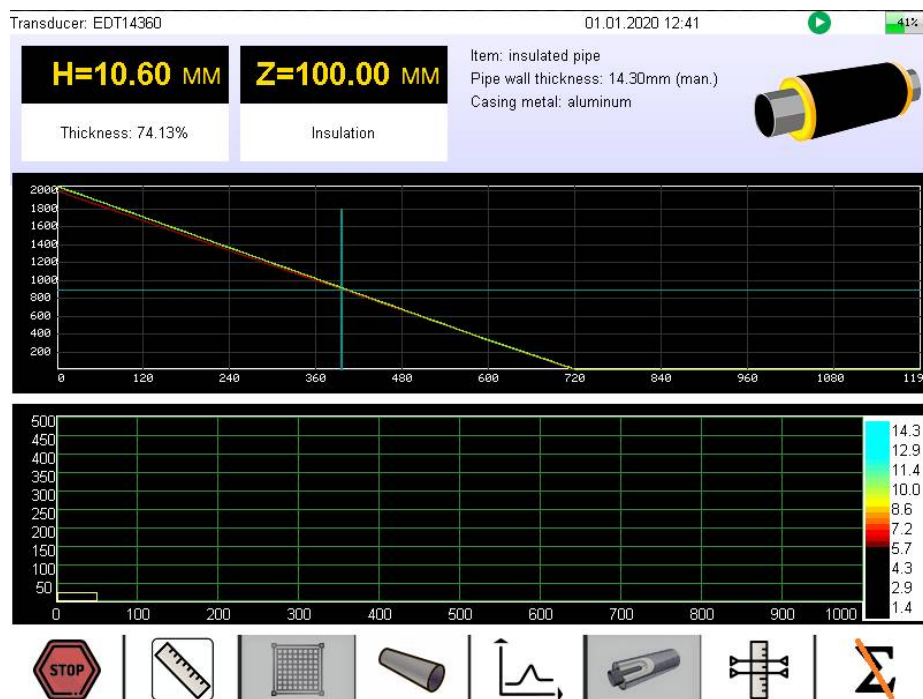

Figure 52. Main window of the Device in scan mode
- Start scanning through the  menu ("Scanning Start/Stop/Continuation Menu"). In this case, the main window of the Device will appear as shown in Figure 52.